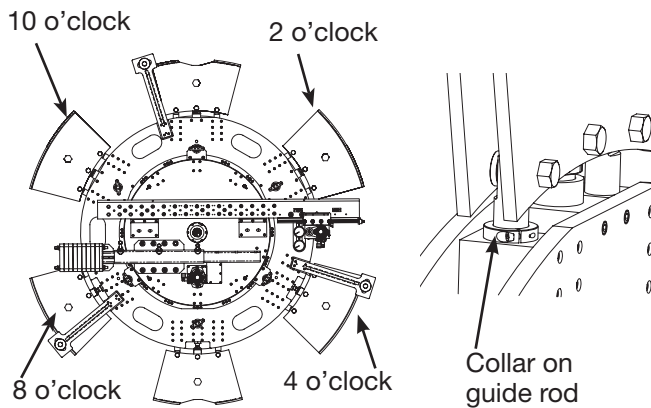

Figure 4: Guide rod collars
6. To prevent the clamping feet, located at 4 and 8 o'clock initially (see figure 4), from rotating out of position, tighten two collars in total, one on each aforementioned extension leg. The collars at positions 2 and 10 o'clock should be left loose until after the hydraulic clamping feet positions have fully retracted, see section 5.8
3. Now tighten two collars on the hydraulic clamping leg guide rods, located at 10 and 2 o'clock as described in section 5.4, and figure 4.